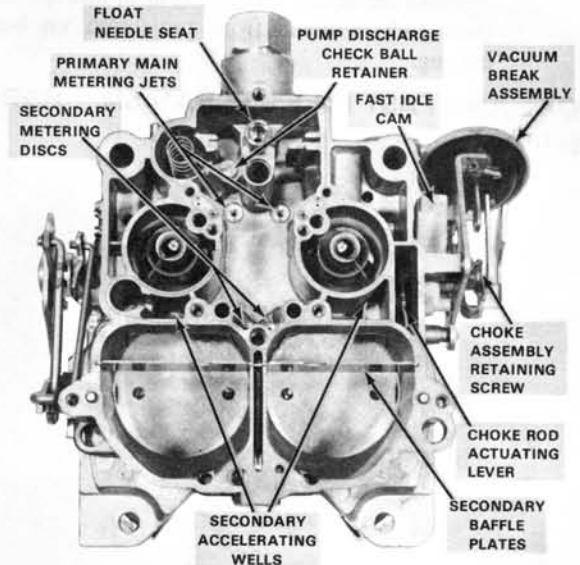

FIGURE 34
B. STANDARD TYPE NEEDLE AND SEAT – (Figure 34)